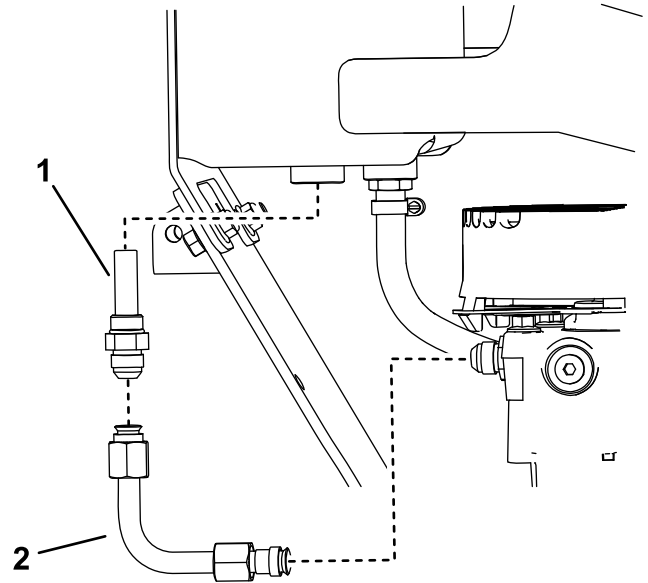

Figure 12
6. Remove the tube and screen fitting from the tank and pump (Figure 12). Discard the screen fitting.
7. Install the new screen fitting to the tank (Figure 12). Torque the fitting to 79 to 98 N·m (58 to 72 ft-lb).
8. Install the tube to the screen fitting and pump (Figure 12).